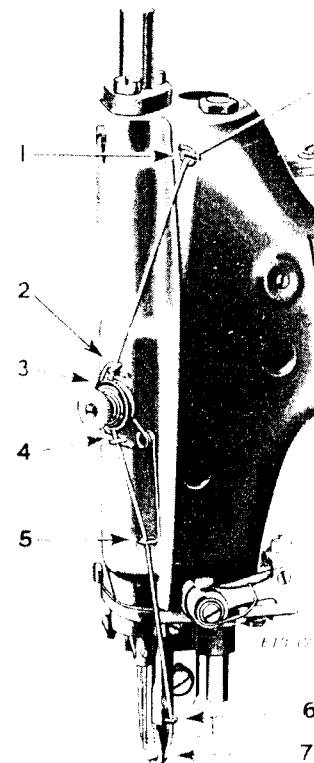
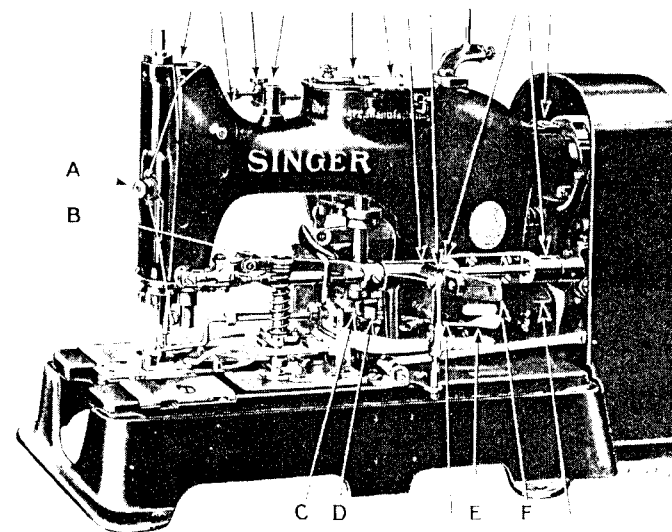

Fig. 12. Threading the Cord Finger
Fig. 16. Oiling Points at the Right of the Machine
The tension on the cord is regulated by the thumb nut (A, Fig. 16). To increase the tension, turn the thumb nut (A) over to the right. To decrease the tension, turn the thumb nut (A) over to the left. The tension on the cord should be sufficient to prevent overthrowing the cord at the point of the cord finger (7, Fig. 12).
(See Fig. 12)
To ensure easy running and prevent unnecessary wear of the parts which are in movable contact, the machine must be oiled regularly. Oil should be applied at the places shown by arrows in Figs. 16, 17 and 18.